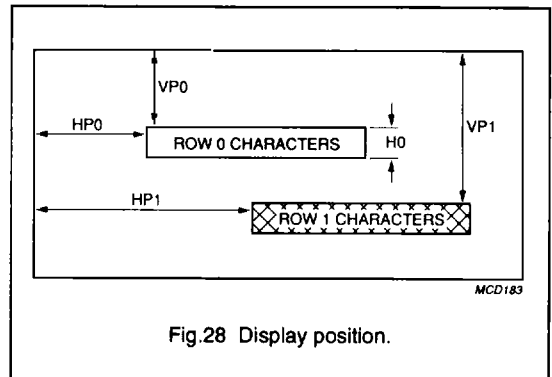

Fig.28 Display position.
Row 0 and Row 1 must not overlap each other and therefore VP1 must be greater than or equal to (VP0 + H0), see Fig. 28. H0 is the character height of the characters in Row 0 and is a function of the number of dots per character and the state of the Size control bits SZ00 and SZ01. The four possible character heights are shown in Table 8.
These 6 bits determine the start position of the first display row. The horizontal position control is only active during OSD clock cycles. (See Fig. 28).
Row 0 and Row 1 must not overlap each other and therefore VP1 must be greater than or equal to (VP0 + H0), see Fig. 28. H0 is the character height of the characters in Row 0 and is a function of the number of dots per character and the state of the size control bits SZ00 and SZ01. The four possible character heights are shown in Table 8.
These 6 bits determine the start position of the second display line (Line 1). The horizontal position control is only active during OSD clock cycles. (See Fig. 28). The horizontal start position (HP) of Line 1 may be calculated using: